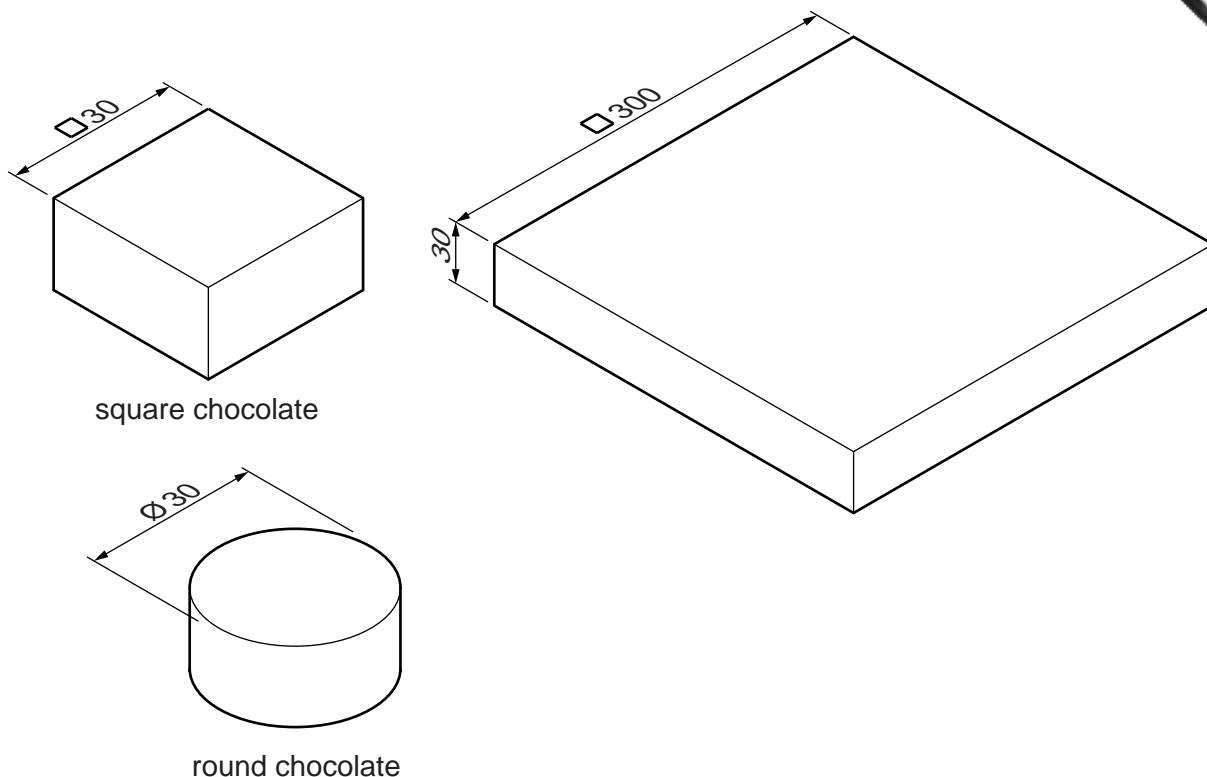

Fig. 10
- 8 Fig. 10 shows two types of chocolate and an incomplete idea for a card box in which they can be packaged.